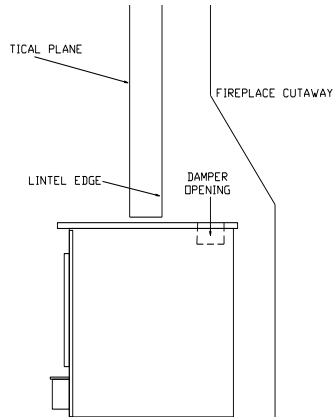

FIGURE 2 **POSITIONING**
When positioning heater, the following conditions **MUST** be met! (See Figure 2).
1. The front of damper opening must be positioned **BEHIND** back edge of the lintel to ensure proper draft. (See Figure 2).
After unit is positioned as shown in (Figure 2), mark mounting position of trim panels as follows: